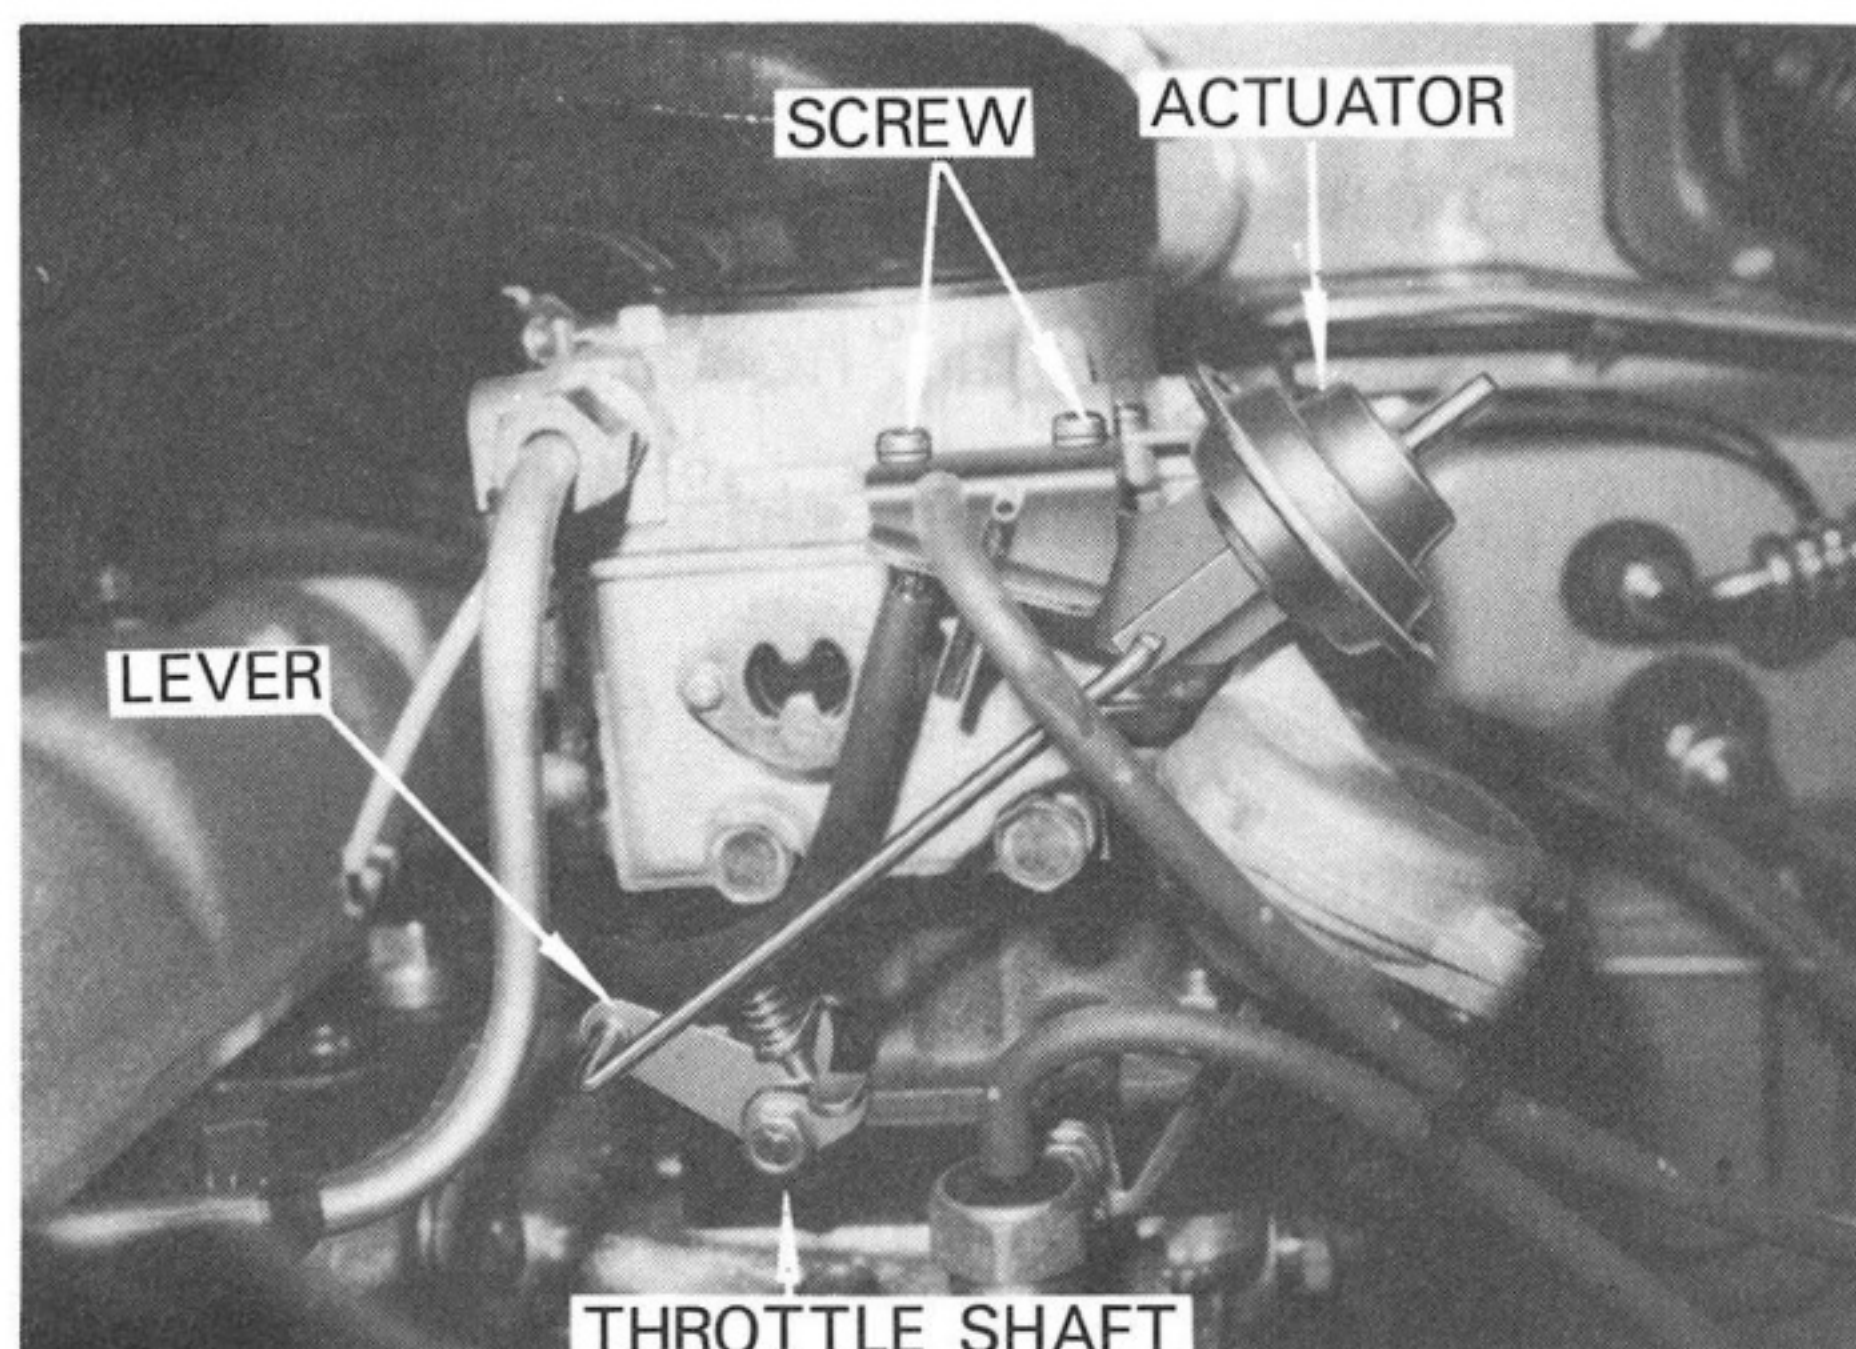

Fig. 35
- B) Install the lever of actuator onto the throttle shaft and reinstall the original lever, washer and nut. See Fig. 35.
- C) Fix the actuator on the flange of carburetor together with vacuum hose joint bracket using two screws. See Fig. 35.